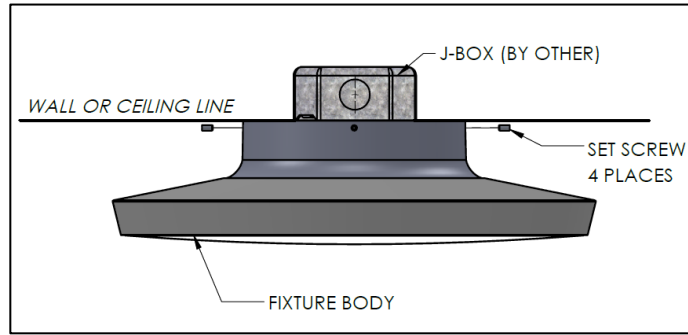

FIG. 9 – FIXTURE BODY INSTALLATION
4. Slide **FIXTURE BODY** over **MOUNTING PLATE**. Tighten **SET SCREWS** to secure **FIXTURE** (make sure that all the **SET SCREWS** engage the **MOUNTING PLATE** in order to safely hold the **FIXTURE**) as shown below in **FIG. 9**.